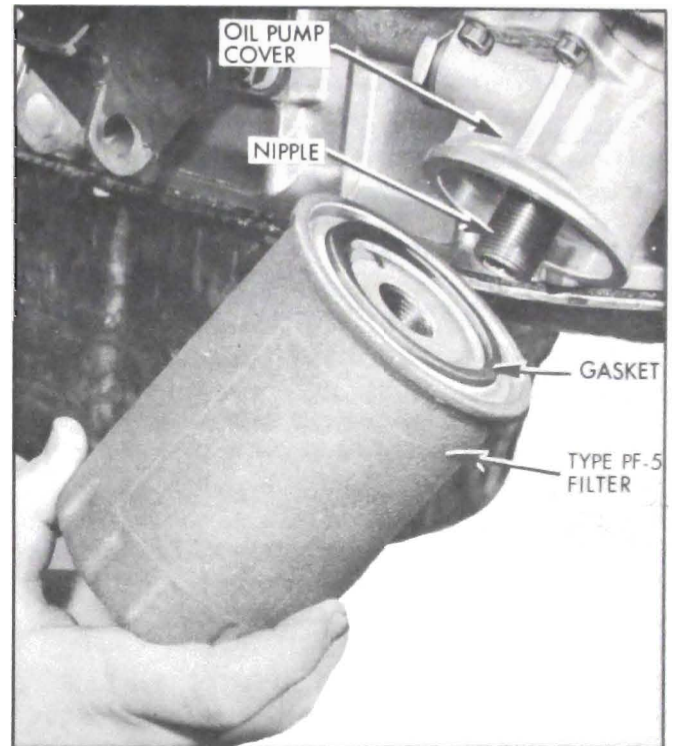

Figure 1-1—Oil Filter Installation
engine has run for five (5) minutes. See Figure 1-1.